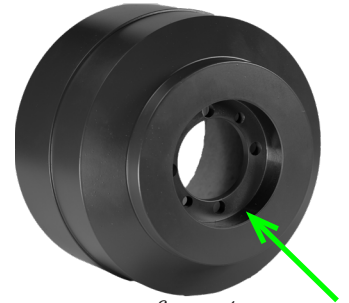

figure 4
- Place a thin coat of anti-seize paste on the magnet drive hub on the unpainted fit diameter. See figure 4.